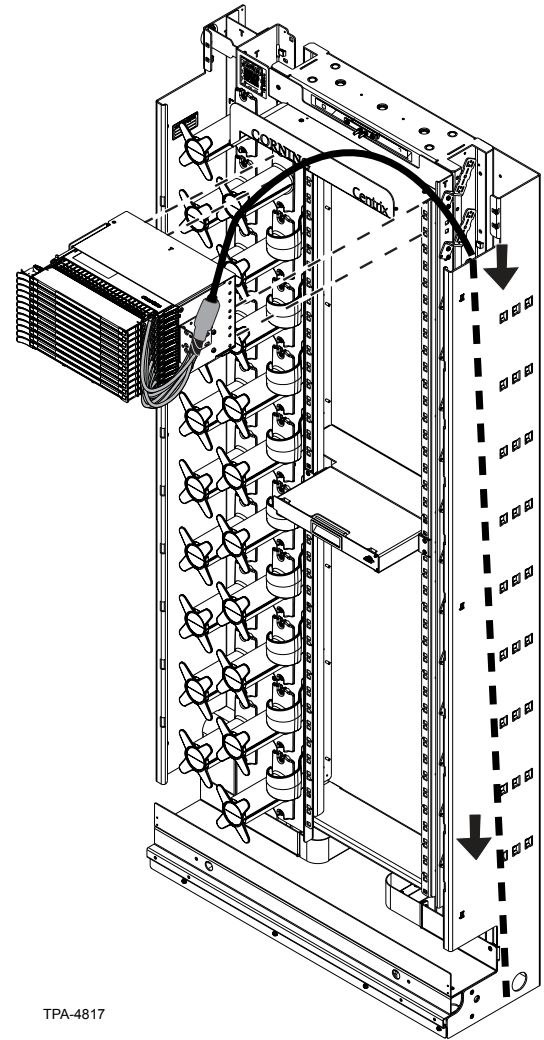

Figure 9
- Step 2:** Feed the cable down through the side channel to the bottom of the frame (Figure 9).
- Step 3:** Beginning at the top of the frame, install the first housing (Figure 9).